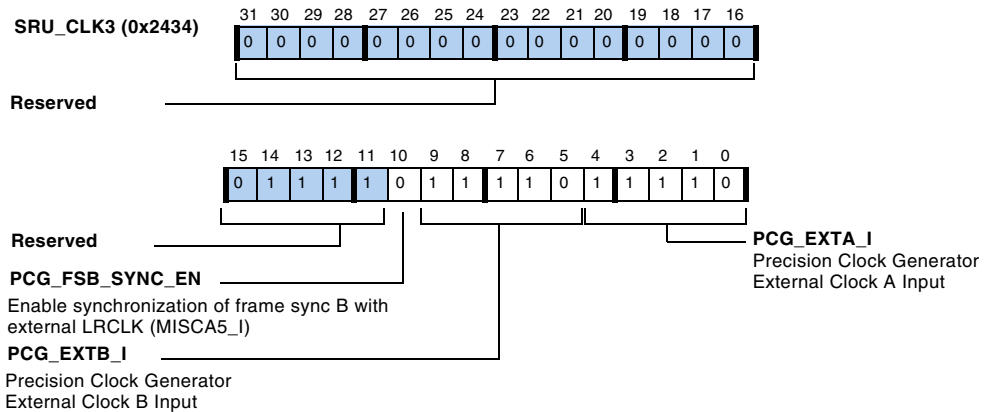

Figure A-37. SRU\_CLK3 Register
- SRU\_CLK3, described in Figure A-37 on page A-116